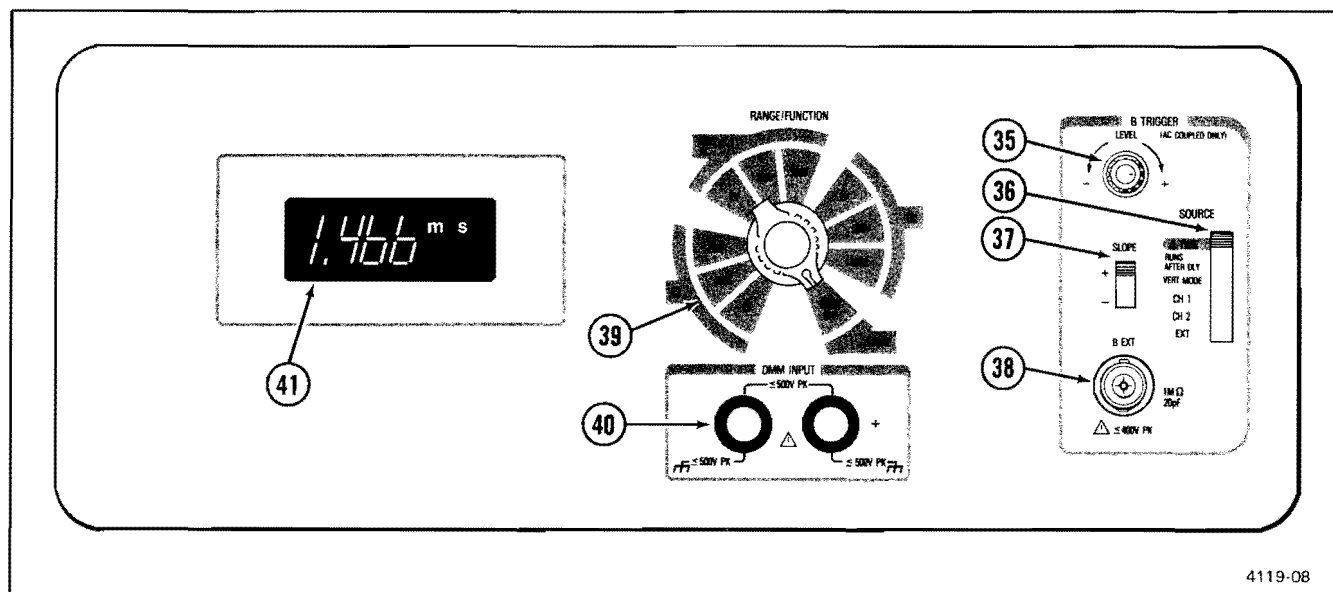

Figure 2-7. DMM and B TRIGGER controls, connectors, and LCD readout.
Refer to Figure 2-7 for location of items 35 through 41.